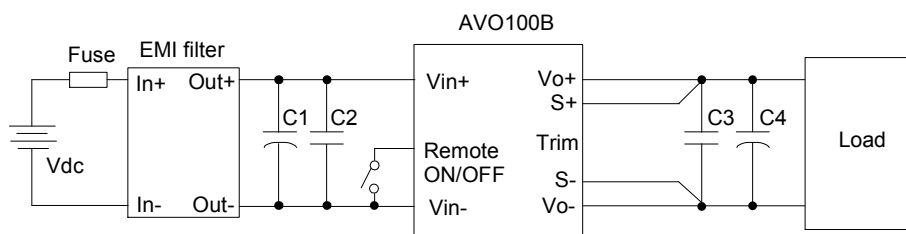

Figure 11 Typical application
Figure 4 Dynamic response for 25% load step (50% ~ 75% ~ 50%) and 0.1A/μs slew rate, (2ms/div), see Figure 11 for test configuration; CH1-output voltage (50mV/div); CH2-output current (10A/div)
Figure 5 Dynamic response for 25% load step (50% ~ 75% ~ 50%) and 1A/μs slew rate, (2ms/div), see Figure 11 for test configuration; CH1-output voltage (200mV/div); CH2-output current (10A/div)
If the load is far from the unit, connect S+ and S- to the terminal of the load respectively to compensate the voltage drop on the transmission line. See Figure 11.
C1 ~ C4: See Figure 11
- C1 ~ C4: See Figure 11